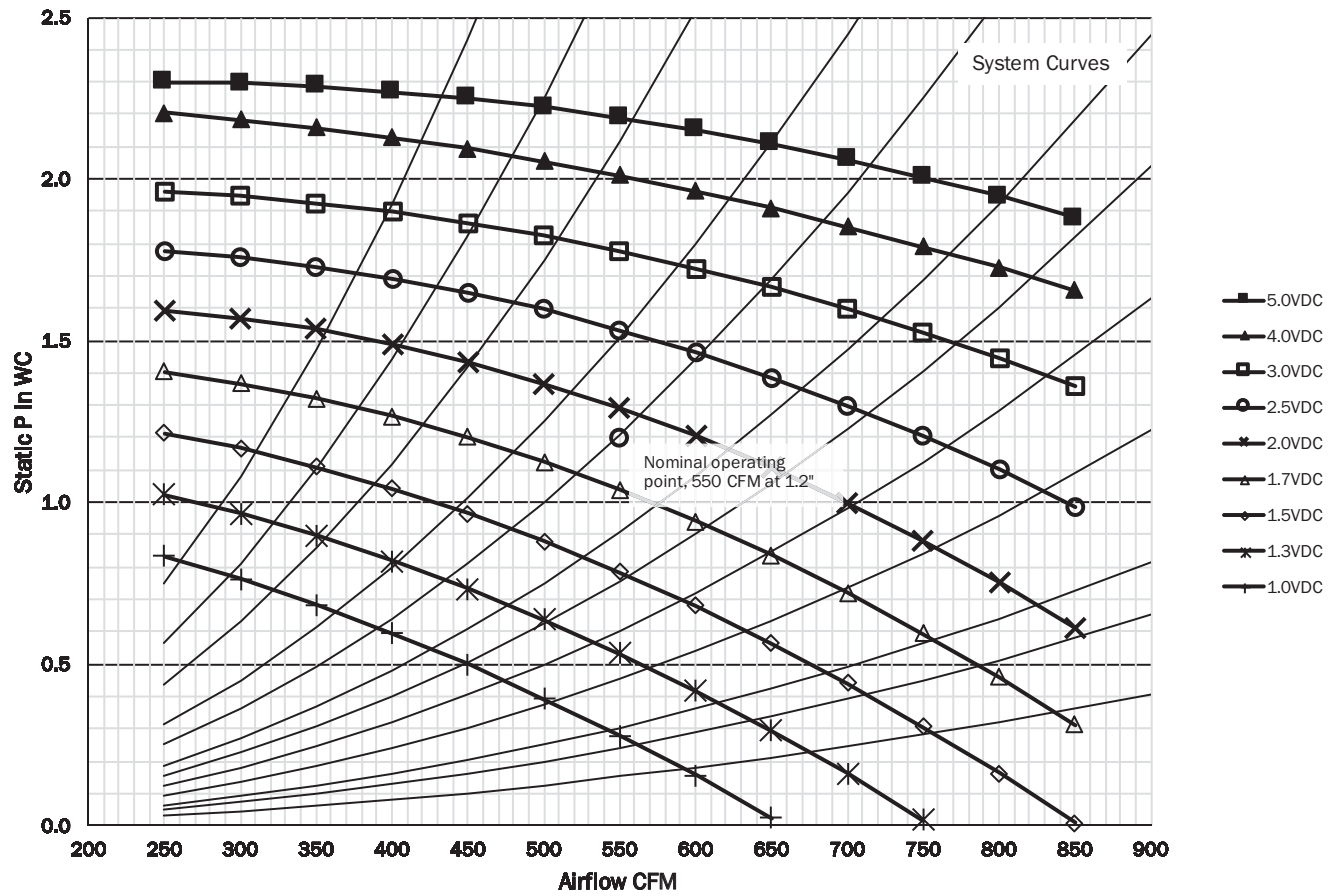

FIGURE 3.21
- d. To determine unit airflow, in CFM, measure the voltage corresponding to the current conditioning call, and measure the external static pressure in the plenum, at least 18" from the unit or nearest transition point. Locate the static pressure on the left side of the charts (Figure 3.2/3.3/3.4) and read across until you reach the curve corresponding to the measured voltage. From the point where this crosses, drop a line straight down to read the airflow at the bottom of the chart. For system settings of 1.2" inch static pressure, refer to tables in Figures 3.21, 3.31 and 3.41.